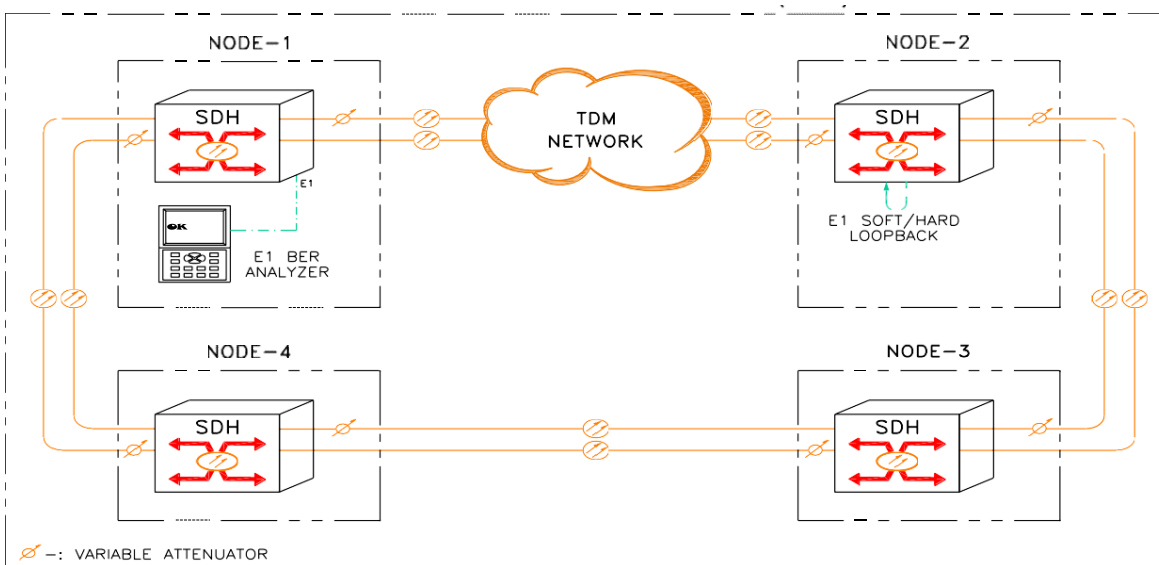

Figure 1: SNCP Protection Test
- Make the test setup as shown in Figure 1.